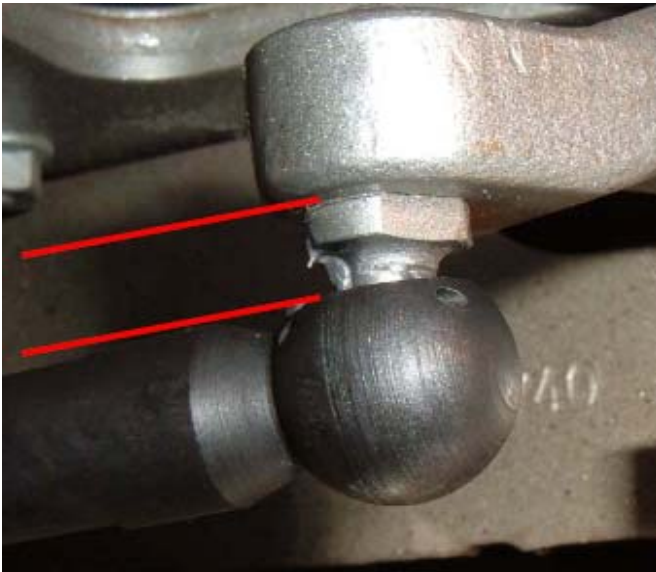

Figure 2 – Ball Socket and Actuator Arm Alignment
5. Align the flats of the ball sockets with the actuator and brake flap lever arms (see Figure 2).